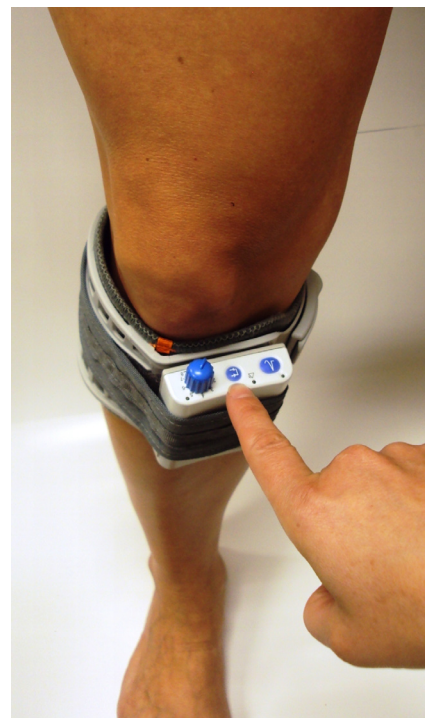

Figure 27: Exercise mode button
- While maintaining total contact over the electrodes with one hand, test STIM. This can be achieved by press down on the large blue STIM button on the WalkAide (labeled √), the Hand Switch on the WalkLink (if it is connected to the WalkAide and if Default Parameters have been previously sent), or exercise mode to initiate the stimulation. (Figure 27)